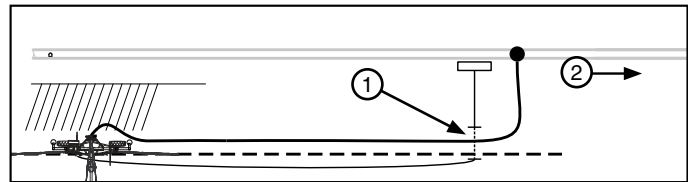

Figure 47-2 1. Buried Cable
- (a) As the cart moves, the swivel inlet begins to pivot. See figure 47-2.